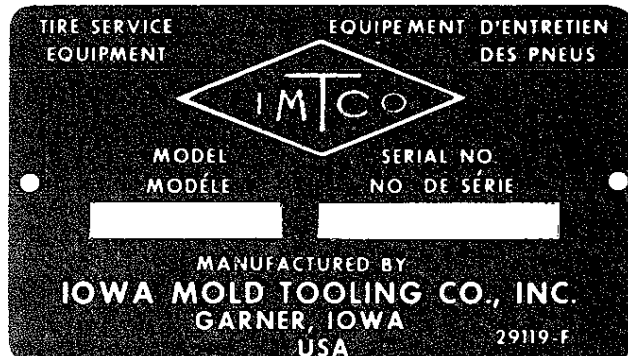

Figure B-1. Identification Placard
Every IMTCO crane has an identification placard (Figure B-1) attached to its mast assembly. When ordering parts, communicating warranty information or referring to the unit in correspondence always include the assigned serial and model numbers. All inquiries should be addressed to Iowa Mold Tooling Co., Inc.; Garner, Iowa; 50438 or telephone (515) 923-2827.